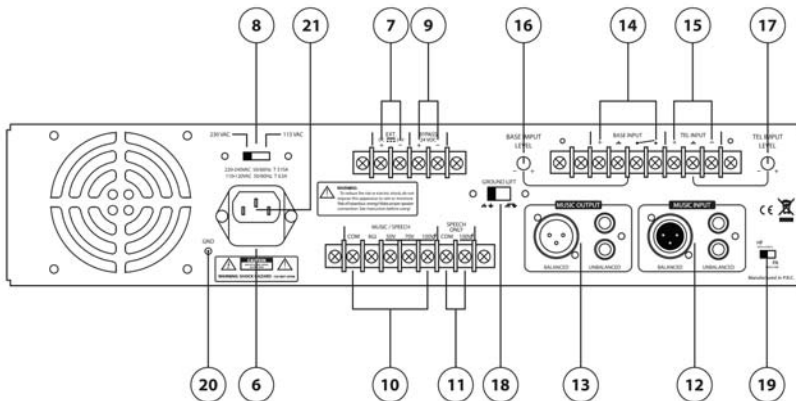

fig.2
To connect the unit to the main power insert in position 21 **fig.2**, the cable supplied in the power unit package.
- To access to 24Vdc Terminal connections (**fig.2**) unscrew to remove the cover.
To access to the speakers terminal screws (fig.2 rif. 10) unscrew to remove the cover.
Connect BM100A terminal to terminal screws 14 of fig.2 as follows:
Connect output terminal of the telephone central to TEL INPUT (fig.2 ref.15). Use the suitable connection considering the audio output characteristics. Make reference to the telephone user manual.
To have a line with constant impedance ( $8\Omega$ ) connect 2 terminals respectively to terminal COM and  $8\Omega$  (**fig.2** ref. 10).
To have a line at constant voltage (50 / 70 / 100 V) connect 2 terminals respectively to COM and to the tension value of your choice (**fig.2** ref10).